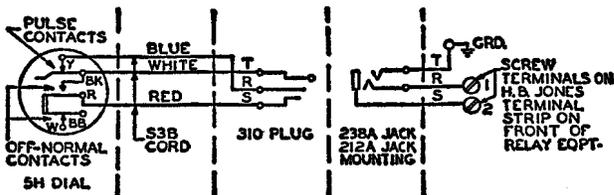

Fig. 2 — 5H Dial, S3B Cord, and 238A Jack
3.03 If greater convenience in testing is desired, the cord of the test dial may be terminated in a plug which engages a jack on the equipment. This jack is not regularly furnished and should be installed locally by the telephone company. For this purpose, a 238A jack in a 212A jack mounting may be used. Connect the 5H dial to the S3B cord and No. 310 plug, and connect the 238A jack to the signaling equipment as shown in Fig. 2.